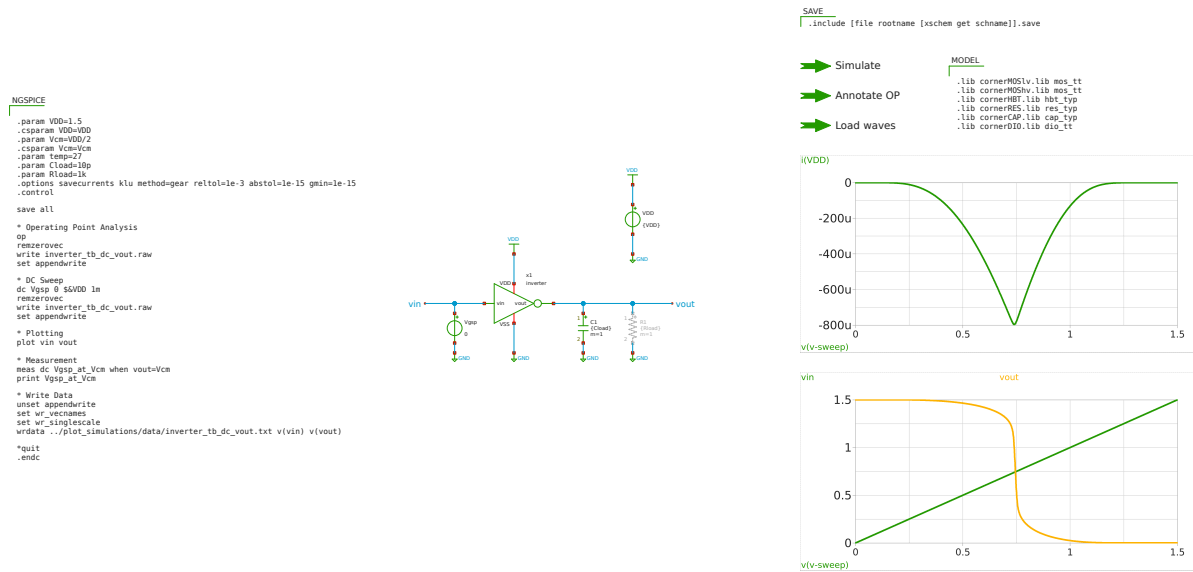

Figure 7: Testbench `inverter_tb_dc_vout` (dc input sweep).
- `inverter_tb_dc_vout.sch` sweeps the input from 0 to V_{DD} and records the voltage transfer characteristic (see Figure 7).